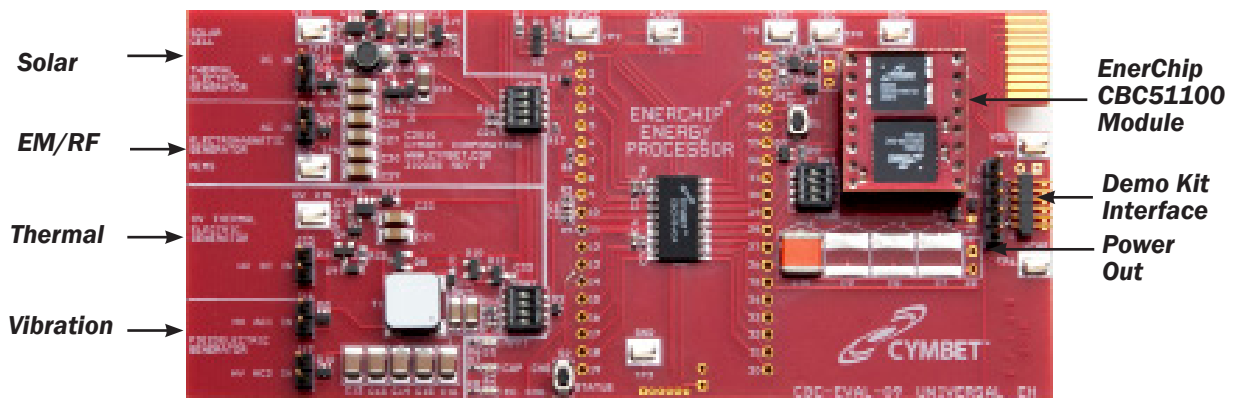

Figure 1: CBC-EVAL-09 Demo Kit - 5 x 2 inches
CBC-EVAL-09 is a universal energy harvesting (EH) evaluation kit that combines any one of multiple EH transducers with the EnerChip™ EP CBC915 Energy Processor and the EnerChip CBC51100 100uAh solid state battery module that has two 50μAh EnerChip solid state batteries connected in parallel. The purpose of this evaluation platform is to enable designers to quickly develop Energy Harvesting applications. The EVAL-09 ships with a solar cell for initial evaluation kit testing. A photo of CBC-EVAL-09 board is shown in Figure 1.